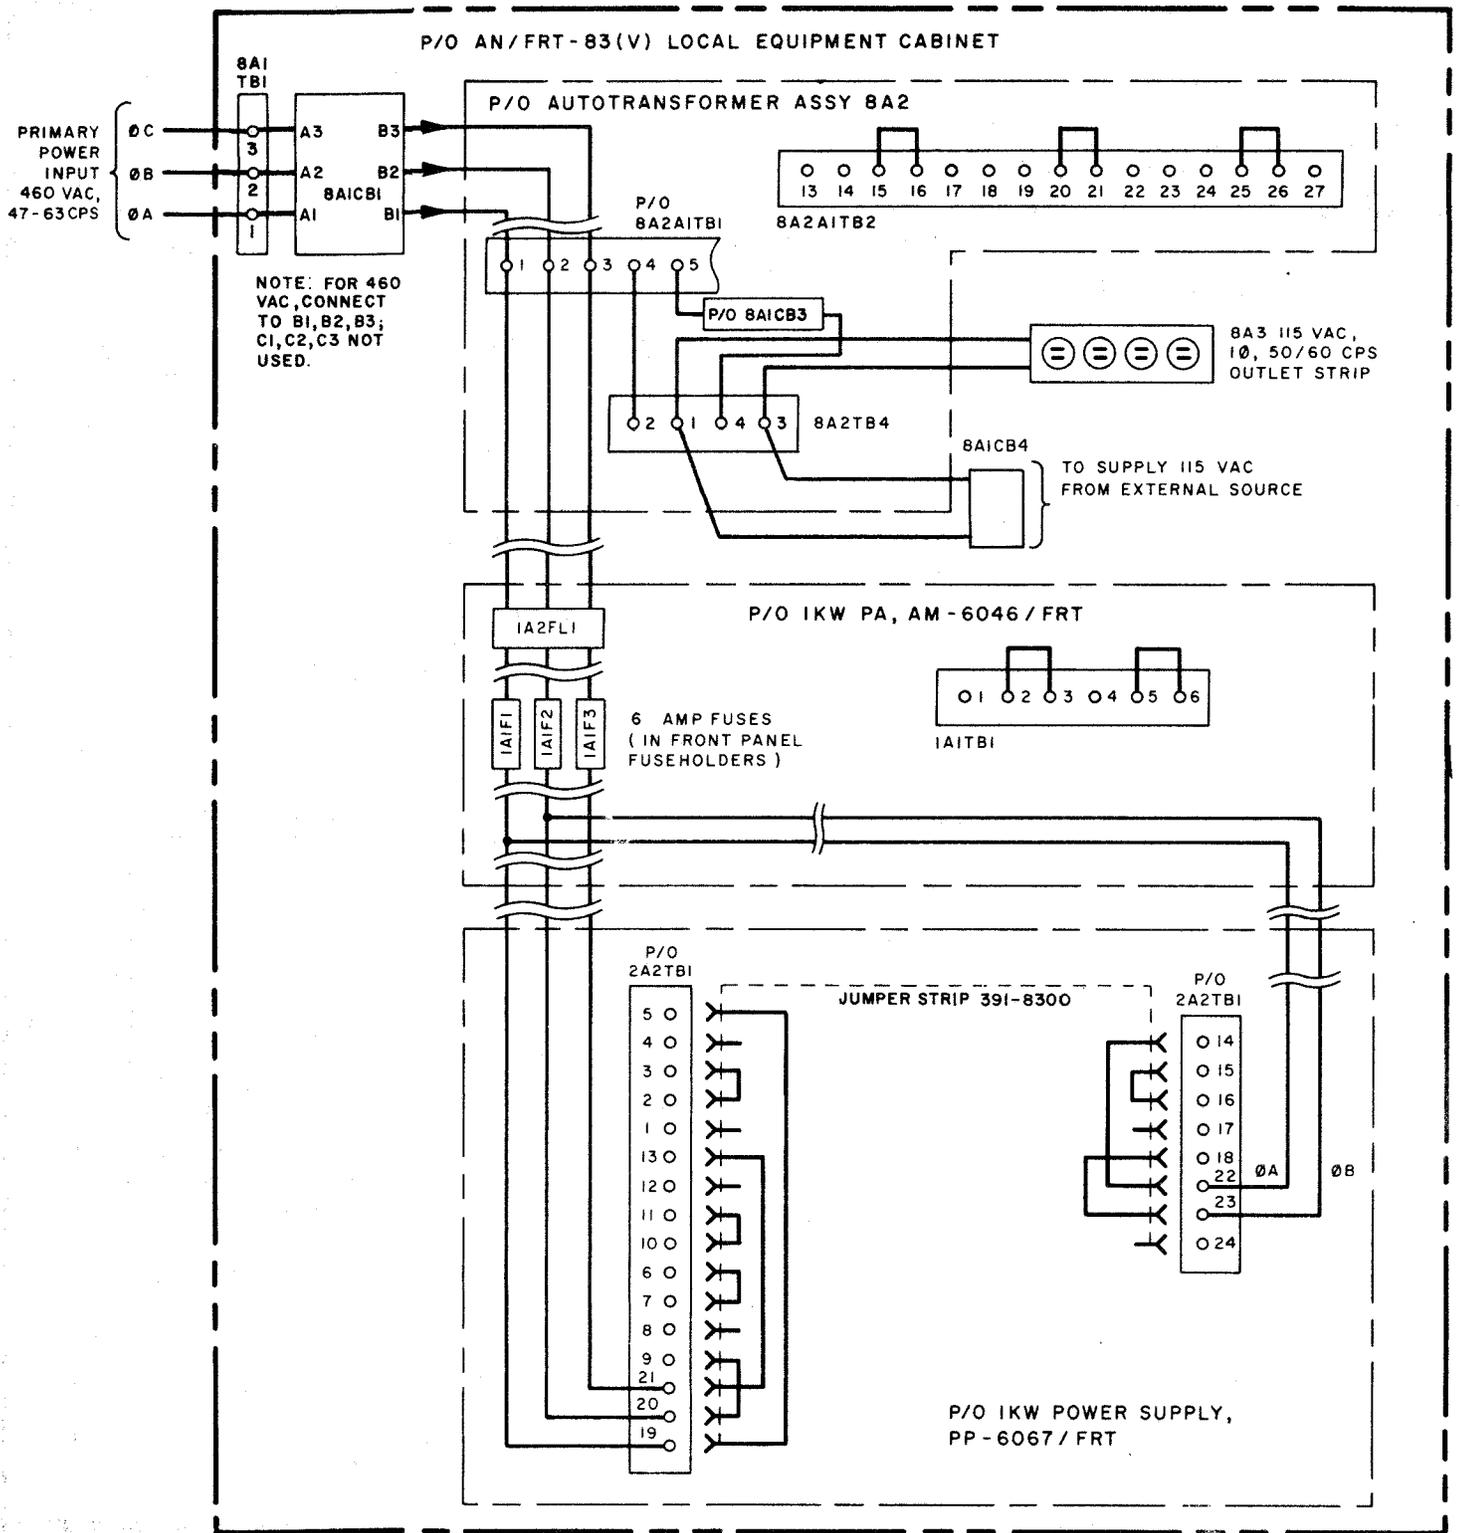

Figure 2-2. 460 VAC Primary Power Fusing and Jumpering Scheme
2-7 Power distribution inside the AN/FRT-83(V) is illustrated in figures 2-2 and 2-3. The Exciter and its blower and the optional Keyer and Decoder-Encoder units are supplied with  $115 \pm 11.5$  VAC, 50-60 CPS, single-phase power from outlet strip 8A3 in the AN/FRT-83(V) cabinet. Power connections are described in paragraph 2-17.
2-20 After connections have been made to the terminal block, refer to figures 2-2 and 2-3 to determine the correct set of output terminals on circuit breaker 8A1CB1 to be used for the selected primary power voltage. Check the connections, and change them over to the other set of terminals if necessary.
2-21 Connect wires of 115 VAC power cable to line terminals of circuit breaker 8A1CB4 (figure 2-2 or 2-3).
g. Check all fuse holders to ensure that each contains a fuse of the proper rating (figure 2-2 and 2-3 and figure 3-1, Operator's Handbook).